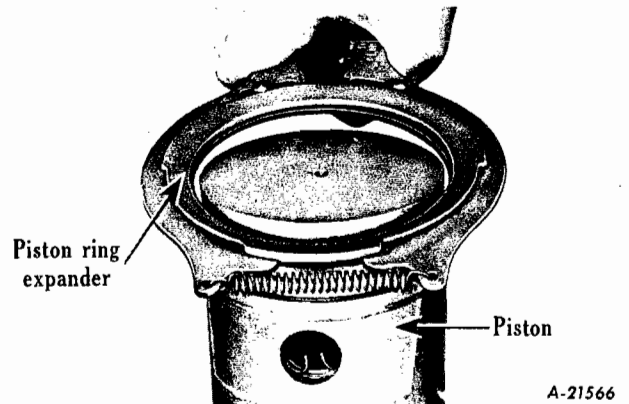

Fig. 34 - Installing piston ring using SE-1149-8 Ring installing tool.
3. When installing piston rings in piston grooves, be careful not to distort rings. If possible, use a suitable piston ring expander tool (Fig. 34). Also check new piston rings in piston ring grooves for clearance between ring and ring lands. The correct ring clearance is shown in specifications.